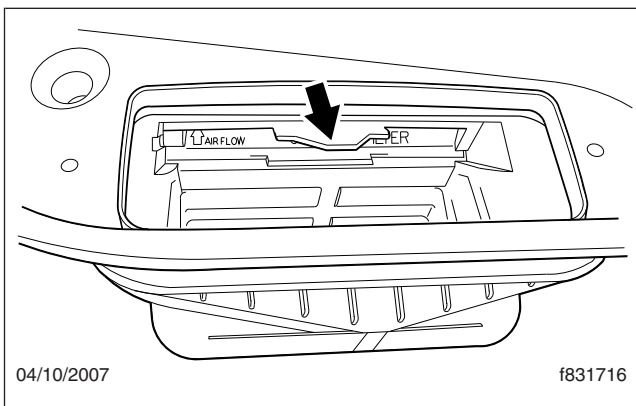

Fig. 3, Disengaging the Lock
4. Lightly press on the filter tray handle to disengage the lock (see Fig. 3), and slide the tray out of the slot in the plenum.